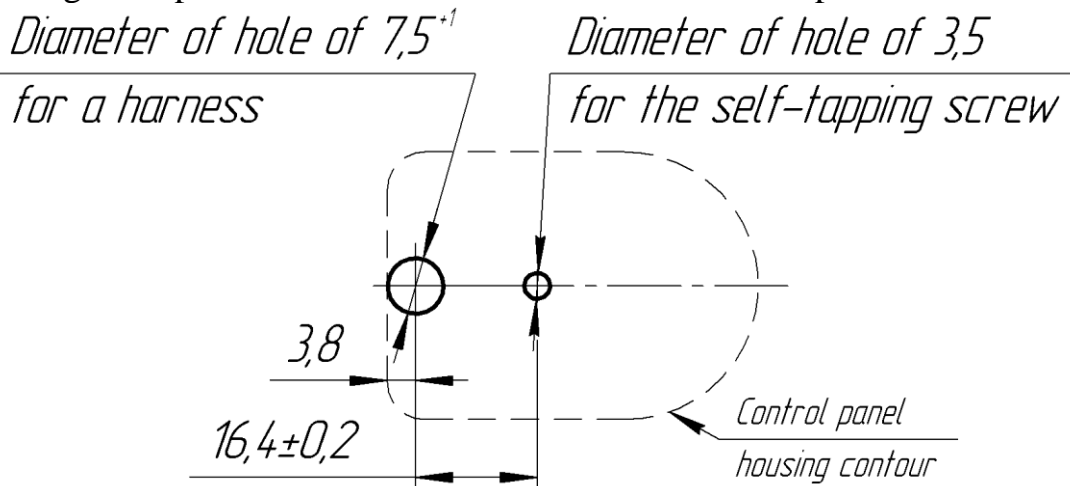

Fig.1
- Apply a marking (see. Fig.1) on a surface for installation of the control panel (a hole for a harness and a hole for the self-tapping screw).